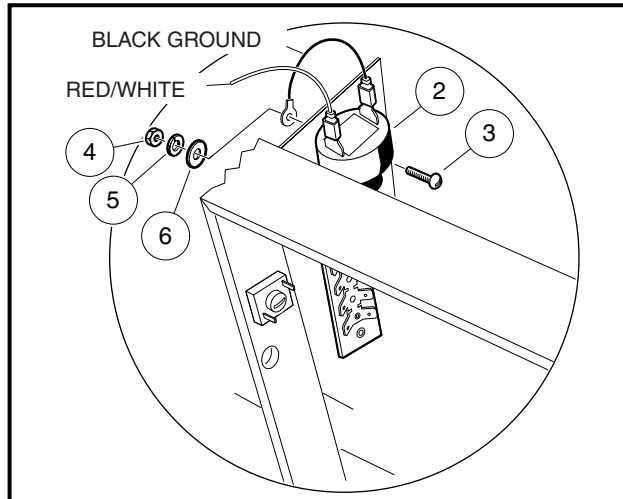

Figure 12b-22 Front Reverse Warning Buzzer
1. Install the screw (3) through the buzzer (2) bracket tab and frame, secure with hardware, and tighten to 14 in-lb (1.6 N·m) (**Figure 12b-22, Page 12b-18**). **See following NOTE.**
2. Disconnect the battery cables as instructed (**Figure 12b-1, Page 12b-1**). **See WARNING "To avoid unintentionally starting..." in General Warning, Section 1, Page 1-2.**